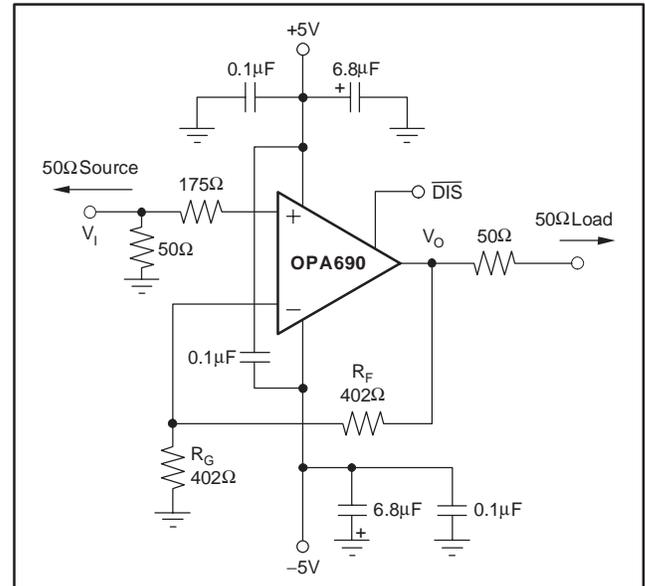
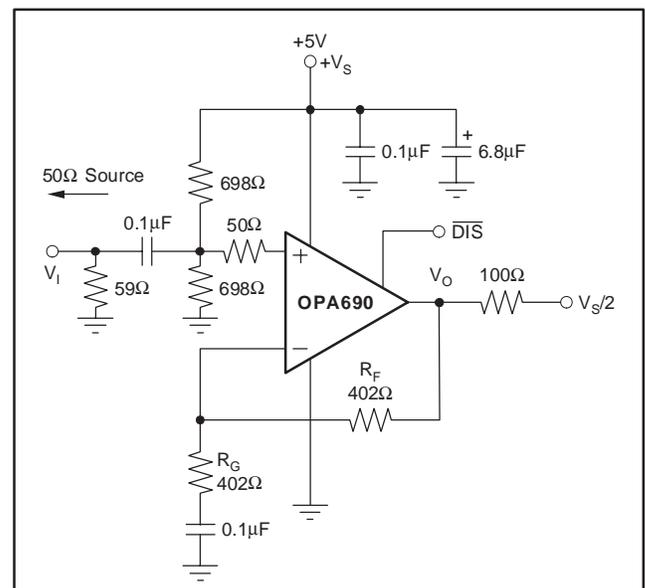
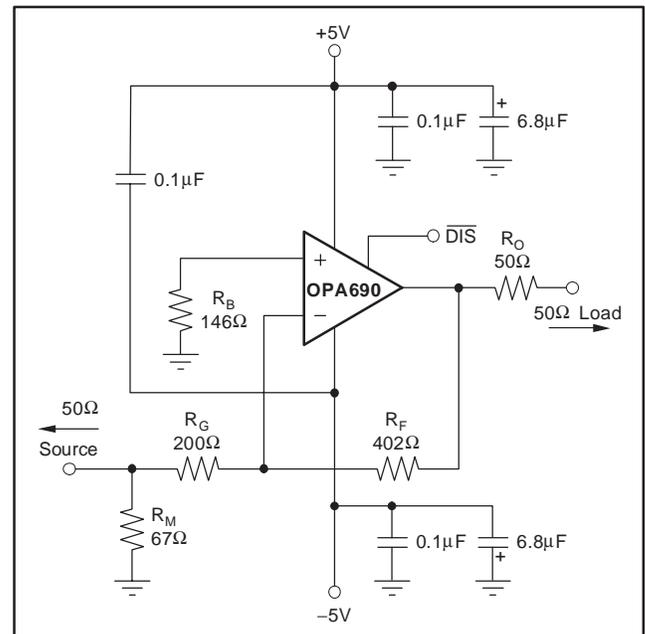
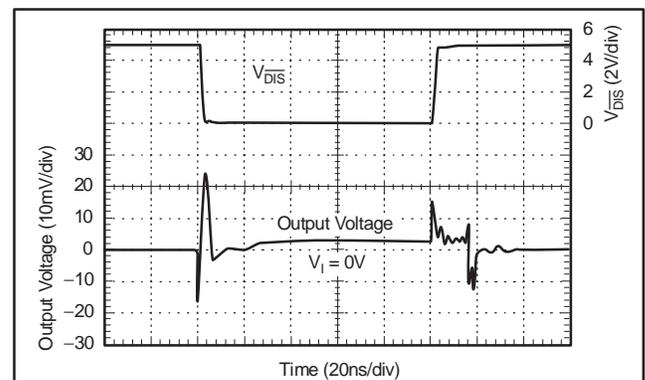

Figure 1. DC-Coupled, G = +2, Bipolar Supply, Specification and Test Circuit
Figure 2. DC-Coupled, G = +2, Single-Supply, Specification and Test Circuit
Figure 8. Gain of -2 Example Circuit
Figure 14. Disable/Enable Glitch
ELECTRICAL CHARACTERISTICS: $V_S = +5V$ (continued)**Boldface** limits are tested at **+25°C**.At $R_F = 402\Omega$, $R_L = 100\Omega$, and $G = +2$ (see Figure 2 for AC performance only), unless otherwise noted.
At $T_A = +25C$, $G = +2$, $R_F = 402\Omega$, and $R_L = 100\Omega$ (see Figure 1 for AC performance only), unless otherwise noted.
At $T_A = +25^\circ C$, $G = +2$, $R_F = 402\Omega$, and $R_L = 100\Omega$ (see Figure 1 for AC performance only), unless otherwise noted.
At $T_A = +25C$, $G = +2$, $R_F = 402\Omega$, and $R_L = 100\Omega$ (see Figure 2 for AC performance only), unless otherwise noted.
Figure 1 shows the DC-coupled, gain of +2, dual power-supply circuit configuration used as the basis of the ± 5 V Electrical Characteristics and Typical Characteristics. For test purposes, the input impedance is set to 50 Ω with a resistor to ground and the output impedance is set to 50 Ω with a series output resistor. Voltage swings reported in the specifications are taken directly at the input and output pins, while output powers (dBm) are at the matched 50 Ω load. For the circuit of Figure 1, the total effective load will be 100 Ω || 804 Ω . The disable control line is typically left open to ensure normal amplifier operation. Two optional components are included in Figure 1. An additional resistor (175 Ω) is included in series with the noninverting input. Combined with the 25 Ω DC source resistance looking back towards the signal generator, this gives an input bias current cancelling resistance that matches the 200 Ω source resistance seen at the inverting input (see the *DC Accuracy and Offset Control* section). In addition to the usual power-supply decoupling capacitors to ground, a 0.1 μ F capacitor is included between the two power-supply pins. In practical PC board layouts, this optional-added capacitor will typically improve the 2nd-harmonic distortion performance by 3dB to 6dB.
Figure 2 shows the AC-coupled, gain of +2, single-supply circuit configuration which is the basis of the +5V Specifications and Typical Characteristics. Though not a *rail-to-rail* design, the OPA690 requires minimal input and output voltage headroom compared to other very wideband voltage-feedback op amps. It will deliver a 3V_{PP} output swing on a single +5V supply with > 150MHz bandwidth. The key requirement of broadband single-supply operation is to maintain input and output signal swings within the useable voltage ranges at both the
input and the output. The circuit of Figure 2 establishes an input midpoint bias using a simple resistive divider from the +5V supply (two 698 Ω resistors). The input signal is then AC-coupled into the midpoint voltage bias. The input voltage can swing to within 1.5V of either supply pin, giving a 2V_{PP} input signal range centered between the supply pins. The input impedance matching resistor (59 Ω) used for testing is adjusted to give a 50 Ω input load when the parallel combination of the biasing divider network is included.
Both the input signal and the gain setting resistor are AC-coupled using $0.1\mu F$ blocking capacitors (actually giving bandpass response with the low-frequency pole set to $32kHz$ for the component values shown). As discussed for Figure 2, this allows the midpoint bias formed by the two $1.87k\Omega$ resistors to appear at both the input and output pins. The midband signal gain is set to $+4$ ($12dB$) in this case. The capacitor to ground on the noninverting input is intentionally set larger to dominate input parasitic terms. At a gain of $+4$, the OPA690 on a single supply will show $\sim 80MHz$ small- and large-signal bandwidth. The resistor values have been slightly adjusted to account for this limited bandwidth in the amplifier stage. Tests of this circuit show a precise $5MHz$, $-3dB$ point with a maximally flat passband (above the $32kHz$ AC-coupling corner), and a maximum stop band attenuation of $36dB$ at the amplifier's $-3dB$ bandwidth of $80MHz$.
A good rule of thumb is to target the parallel combination of R_F and R_G (see Figure 1) to be less than approximately 300Ω. The combined impedance $R_F || R_G$ interacts with the inverting input capacitance, placing an additional pole in the feedback network and thus, a zero in the forward response. Assuming a 2pF total parasitic on the inverting node, holding $R_F || R_G < 300Ω$ will keep this pole above 250MHz. By itself, this constraint implies that the feedback resistor R_F can increase to several kΩ at high gains. This is acceptable as long as the pole formed by R_F and any parasitic capacitance appearing in parallel is kept out of the frequency range of interest.
Voltage-feedback op amps exhibit decreasing closed-loop bandwidth as the signal gain is increased. In theory, this relationship is described by the Gain Bandwidth Product (GBP) shown in the Electrical Characteristics. Ideally, dividing GBP by the noninverting signal gain (also called the Noise Gain, or NG) will predict the closed-loop bandwidth. In practice, this only holds true when the phase margin approaches 90°, as it does in high gain configurations. At low gains (increased feedback factors), most amplifiers will exhibit a more complex response with lower phase margin. The OPA690 is compensated to give a slightly peaked response in a noninverting gain of 2 (see Figure 1). This results in a typical gain of +2 bandwidth of 220MHz, far exceeding that predicted by dividing the 300MHz GBP by 2. Increasing the gain will cause the phase margin to approach 90° and the bandwidth to more closely approach the predicted value of (GBP/NG). At a gain of +10, the 30MHz bandwidth shown in the Electrical Characteristics agrees with that predicted using the simple formula and the typical GBP of 300MHz.
The frequency response in a gain of +2 may be modified to achieve exceptional flatness simply by increasing the noise gain to 2.5. One way to do this, without affecting the +2 signal gain, is to add an 804Ω resistor across the two inputs in the circuit of Figure 1. A similar technique may be used to reduce peaking in unity-gain (voltage follower) applications. For example, by using a 402Ω feedback resistor along with a 402Ω resistor across the two op amp inputs, the voltage follower response will be similar to the gain of +2 response of Figure 2. Reducing the value of the resistor across the op amp inputs will further limit the frequency response due to increased noise gain.
Since the OPA690 is a general-purpose, wideband voltage-feedback op amp, all of the familiar op amp application circuits are available to the designer. Inverting operation is one of the more common requirements and offers several performance benefits. Figure 8 shows a typical inverting configuration where the I/O impedances and signal gain from Figure 1 are retained in an inverting circuit configuration.
transmission line conductor), R_G may be set equal to the required termination value and R_F adjusted to give the desired gain. This is the simplest approach and results in optimum bandwidth and noise performance. However, at low inverting gains, the resultant feedback resistor value can present a significant load to the amplifier output. For an inverting gain of 2, setting R_G to 50Ω for input matching eliminates the need for R_M but requires a 100Ω feedback resistor. This has the interesting advantage that the noise gain becomes equal to 2 for a 50Ω source impedance—the same as the noninverting circuits considered in the previous section. The amplifier output, however, will now see the 100Ω feedback resistor in parallel with the external load. In general, the feedback resistor should be limited to the 200Ω to 1.5kΩ range. In this case, it is preferable to increase both the R_F and R_G values, as shown in Figure 8, and then achieve the input matching impedance with a third resistor (R_M) to ground. The total input impedance becomes the parallel combination of R_G and R_M .
The second major consideration, touched on in the previous paragraph, is that the signal source impedance becomes part of the noise gain equation and influences the bandwidth. For the example in Figure 8, the R_M value combines in parallel with the external 50Ω source impedance, yielding an effective driving impedance of $50\Omega \parallel 67\Omega = 28.6\Omega$. This impedance is added in series with R_G for calculating the noise gain (NG). The resultant NG is 2.8 for Figure 8, as opposed to only 2 if R_M could be eliminated as discussed above. The bandwidth will therefore be slightly lower for the gain of ±2 circuit of Figure 8 than for the gain of +2 circuit of Figure 1.
The third important consideration in inverting amplifier design is setting the bias current cancellation resistor on the noninverting input (R_B). If this resistor is set equal to the total DC resistance looking out of the inverting node, the output DC error, due to the input bias currents, will be reduced to (Input Offset Current) $\times R_F$. If the 50Ω source impedance is DC-coupled in Figure 8, the total resistance to ground on the inverting input will be 228Ω . Combining this in parallel with the feedback resistor gives the $R_B = 146\Omega$ used in this example. To reduce the additional high-frequency noise introduced by this resistor, it is sometimes bypassed with a capacitor. As long as $R_B < 350\Omega$, the capacitor is not required because the total noise contribution of all other terms will be less than that of the op amp input noise voltage. As a minimum, the OPA690 requires an R_B value of 50Ω to damp out parasitic-induced peaking—a direct short to ground on the noninverting input runs the risk of a very high-frequency instability in the input stage.
or power levels, the 2nd-harmonic dominates the distortion with a negligible 3rd-harmonic component. Focusing then on the 2nd-harmonic, increasing the load impedance improves distortion directly. Remember that the total load includes the feedback network; in the noninverting configuration (see Figure 1), this is sum of $R_F + R_G$, while in the inverting configuration it is just R_F . Also, providing an additional supply-decoupling capacitor (0.1μF) between the supply pins (for bipolar operation) improves the 2nd-order distortion slightly (3dB to 6dB).
One key parameter in disable operation is the output glitch when switching in and out of the disabled mode. Figure 14 shows these glitches for the circuit of Figure 1 with the input signal at 0V. The glitch waveform at the output pin is plotted along with the $\overline{\text{DIS}}$ pin voltage.
The transition edge rate (dv/dt) of the $\overline{\text{DIS}}$ control line will influence this glitch. For the plot of Figure 14, the edge rate was reduced until no further reduction in glitch amplitude was observed. This approximately 1V/ns maximum slew rate may be achieved by adding a simple RC filter into the $\overline{\text{DIS}}$ pin from a higher speed logic line. If extremely fast transition logic is used, a 1kΩ series resistor between the logic gate and the $\overline{\text{DIS}}$ input pin provides adequate bandlimiting using just the parasitic input capacitance on the $\overline{\text{DIS}}$ pin while still ensuring adequate logic level swing.
As a worst-case example, compute the maximum T_J using an OPA690IDBV (SOT23-6 package) in the circuit of Figure 1 operating at the maximum specified ambient temperature of +85°C and driving a grounded 20Ω load.